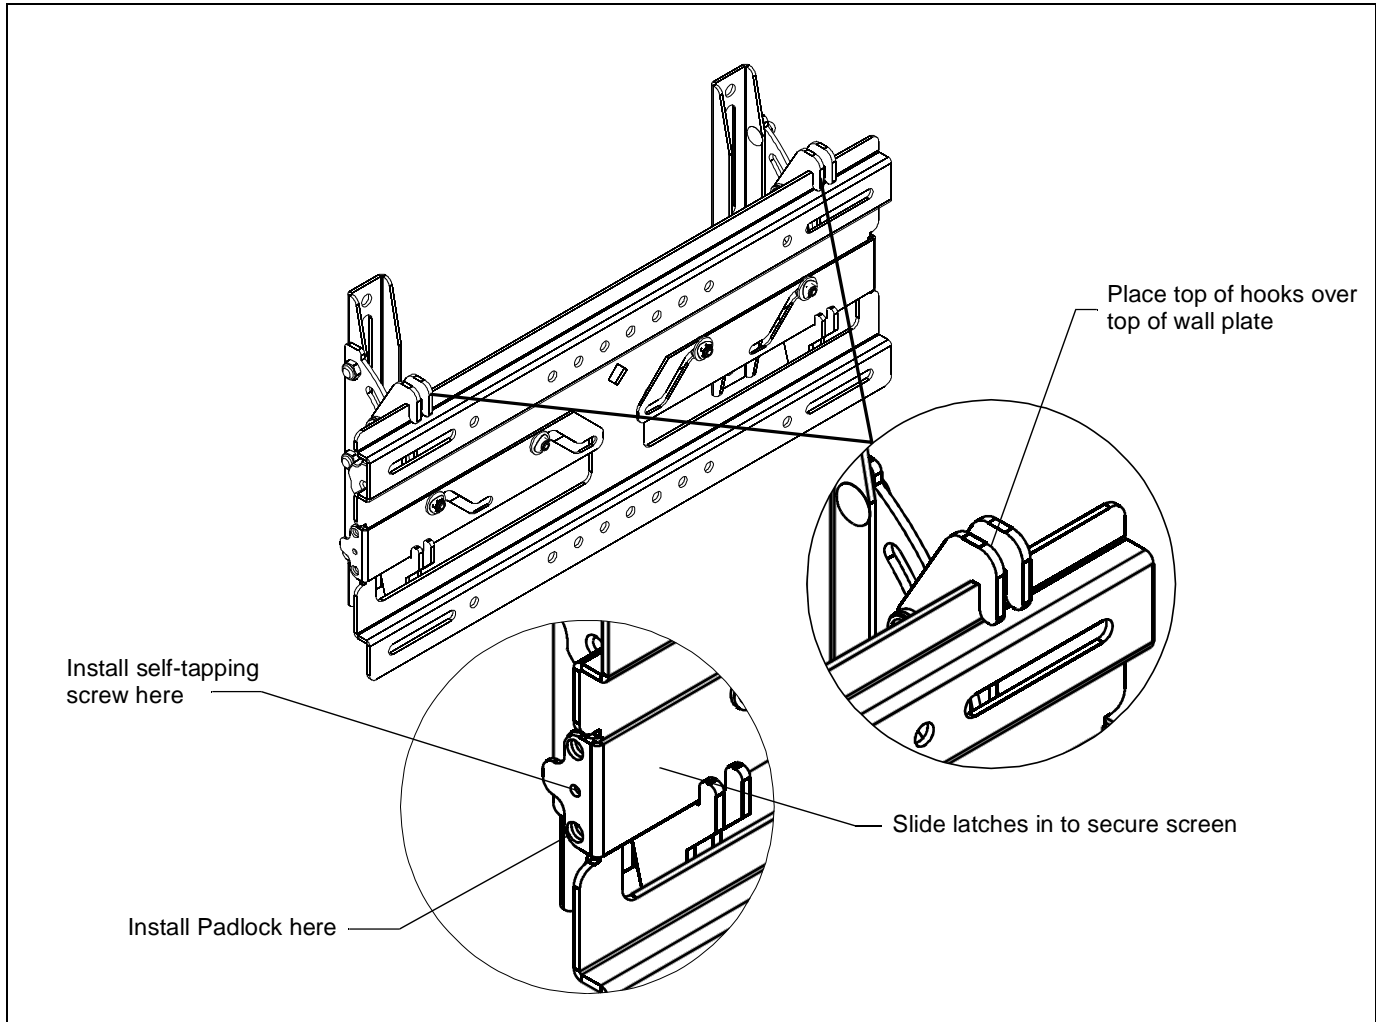

Figure 6
1. Place the display on the wall plate (10) by hooking the hooks of the brackets (20 and 30) in the top of the wall plate (see Figure 6).
2. Secure the display by sliding the latches, one on each side, inward. (See Figure 6)
3. If desired, install self tapping screws (230) and/or padlocks (not provided) for additional security. (See Figure 6)